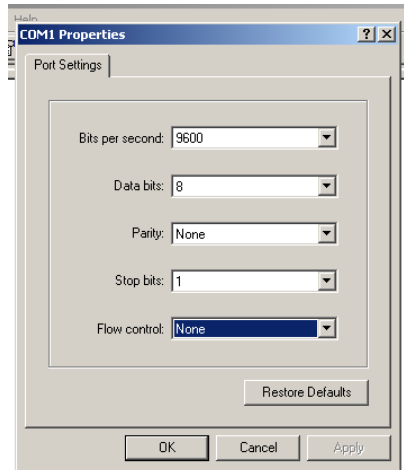

Figure 3: Communication configuration screen.
3. The screen shown in Figure 3 should now be displayed on the screen.
4. On the screen in Figure 3 the fields should read as follows: